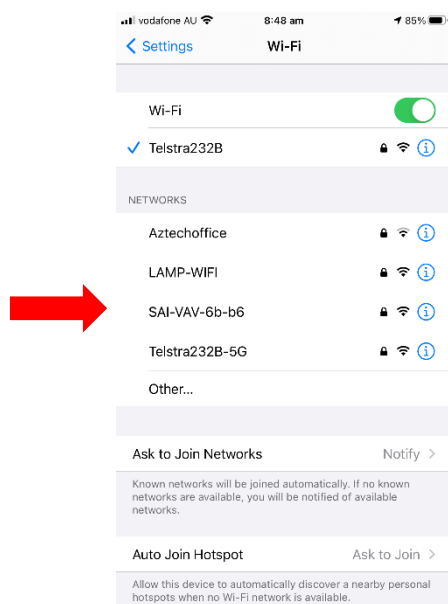

Figure 1 – Select SAI-VAV network in Wi-Fi settings
1. Open your Wi-Fi settings on your device and select the SAI VAV network (*Figure 1*) – if multiple chatterboxes ion site check for the Mac Address on the device you are connecting to.